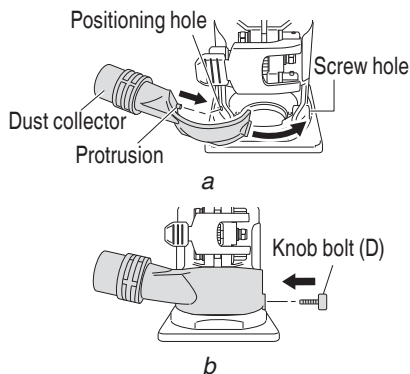

Fig. 25
- (1) Slot the protrusion on the inside of the dust collector to the positioning hole at the front lower left of the base ass'y, and attach it to cover the front of the base ass'y. (Fig. 25-a)
- (2) Using the included knob bolt (D) to secure the dust collector hole to the body's screw hole. (Fig. 25-b)